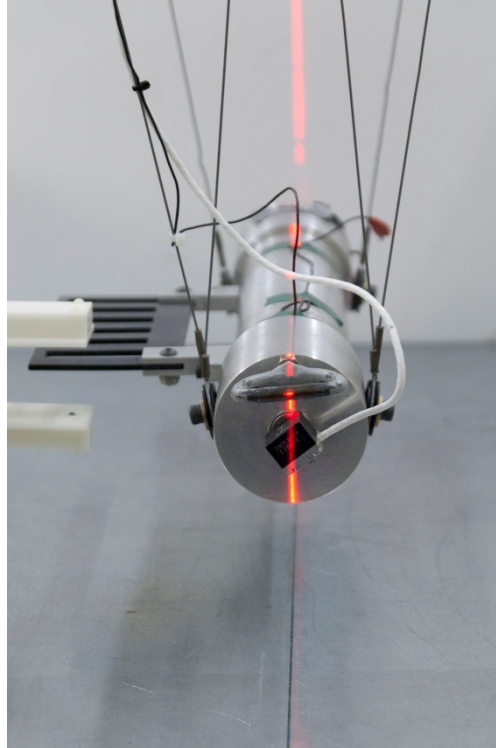

Figure 119. Align laser with probe centerline and pendulum path reference line on support surface
- Place the qualification bench³⁵ (Figure 119) in the probe's impact area so that the dummy can be impacted in the pelvis.